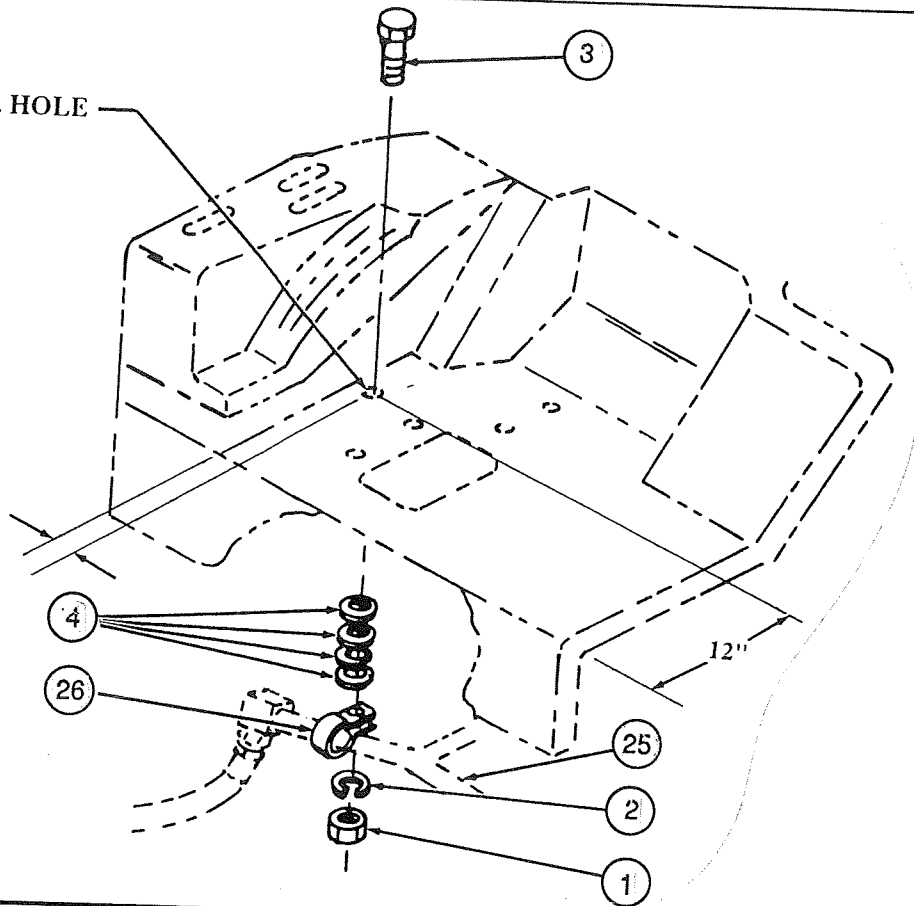

Figure 5
hydraulic lift cover. Drill 3/8 hole for tube clamp bolt in platform (Figure 5). Disconnect pressure line from rearmost elbow on top of remote valve. Disconnect pressure line from rear of priority pack. Disconnect other two oil lines from priority pack and remove pack from top of lift cover by removing four 7/16 x 1 cap screws to allow room to swing pressure line out from under platform. Remove pressure line from tractor.
4. Connect 3/4 x 80 pressure hose to 1-1/16 fitting on branch tee of pressure line (25).
STRADDLE DECK TRACTORS - Install clamp (26) onto pressure line (25)(Figure 5). Attach clamp (26) to platform using 5/16 x 1 cap screw (3), 5/16 nut (1) and 5/16 washers (4 & 2) as needed.